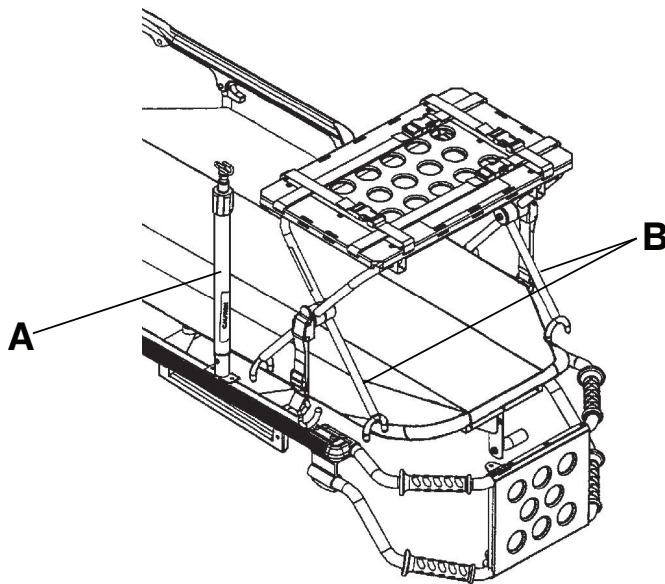

Figure 28 – Raise IV pole and position defibrillator tray (Model 6506 shown)
3. If the product is equipped with an IV pole, raise the IV pole (A) to the up position (Figure 28).
5. Position the inside legs (B) of the defibrillator platform toward the head end of the product (Figure 28).